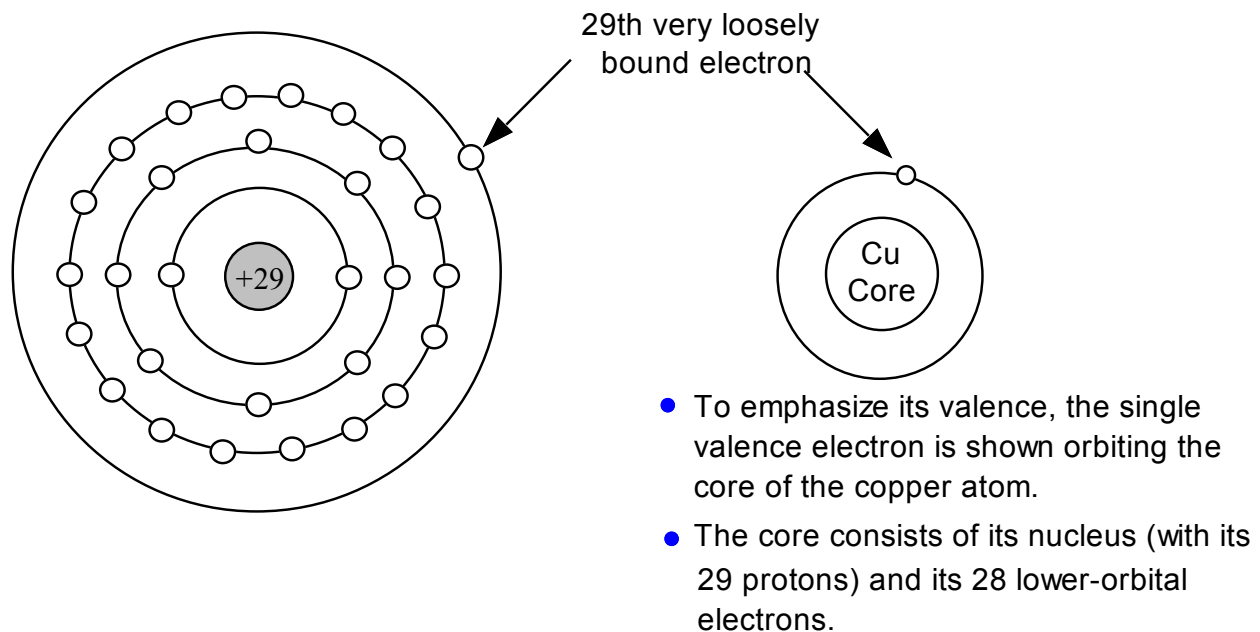

Figure 1-2.
Copper is a good electrical conductor. The reason why copper is such a good electrical conductor becomes clear when we examine its atomic structure. In Fig. 1-2, we see the nucleus (center) of the copper atom contains 29 positively charged protons. (We shall ignore the neutrons since they do not contribute to the primary charge characteristics of an atom.) When copper is electrically neutral it has 29 negatively charged electrons orbiting its nucleus. The number of outermost orbiting electrons is called the *valence* of an atom. Copper has a valence of one (1). The chemical symbol for copper is *Cu*.